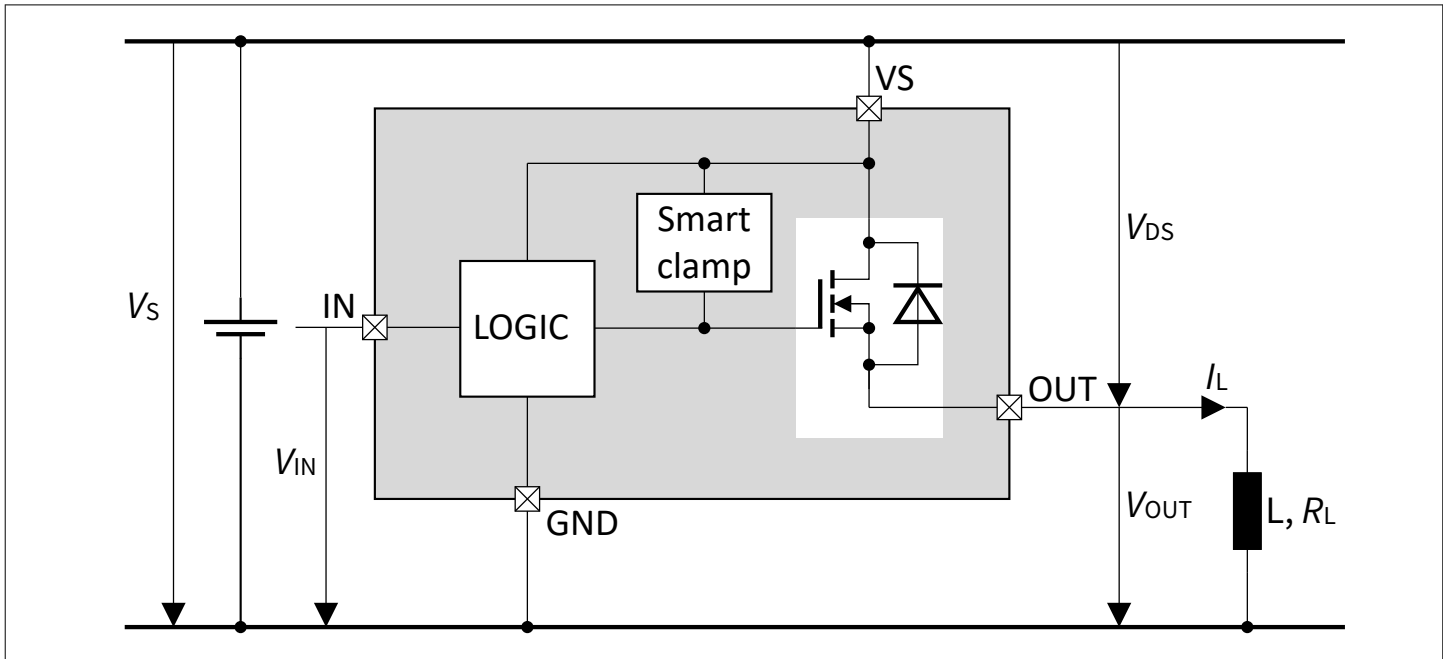
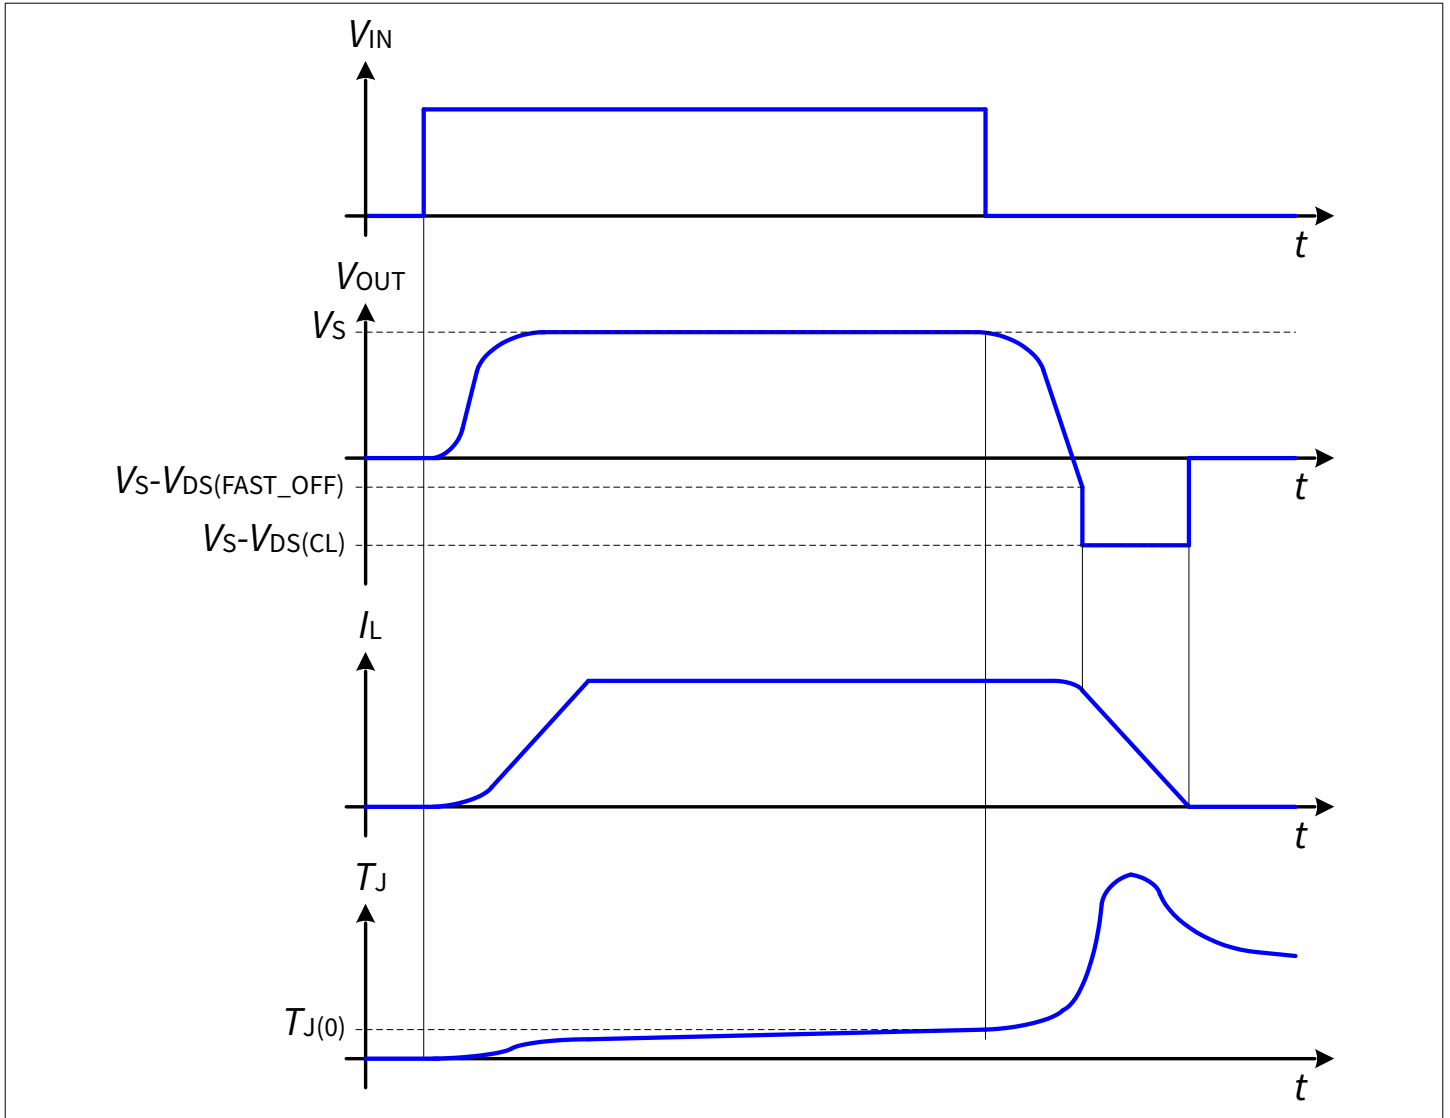

Figure 11 **Output clamp**
Figure 12 Switching an inductance
To prevent the destruction of the device due to high voltages, there is a smart clamping mechanism implemented that keeps negative output voltage to a certain level ($V_S - V_{DS(CL)}$). Please refer to Figure 11 and Figure 12 for details. Nevertheless, the maximum allowed load inductance remains limited.
The device features a fast switch off when driving an inductive load in order to increase the energy capability. The fast turn off is triggered when V_{DS} is higher than $V_{DS(FAST_OFF)}$. Please refer to Figure 12 for details.
- The device is turned off by applying $V_{IN} < V_{I(L)MIN}$. During the switch off operation, V_{OUT} drops below $V_S - V_{DS(FAST_OFF)}$. See Figure 12.